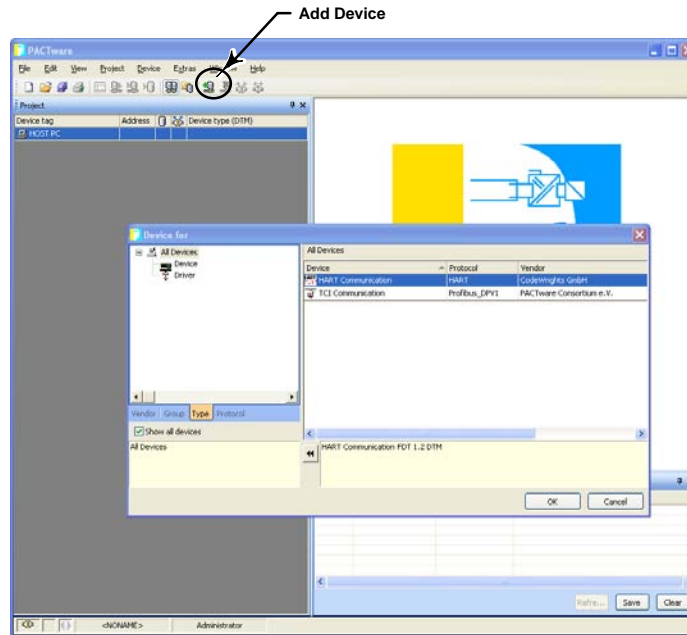

Figure 5-1. Select Add Device to Add the CommDTM
**Step 2:** Select Add Device, as shown in figure 5-1, and click on the appropriate CommDTM. Select OK.